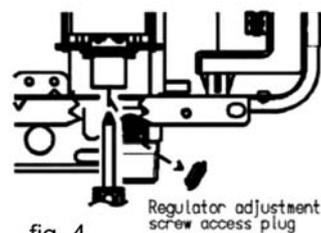

fig. 4
11. Remove rubber access plug and adjust the regulator screw on the modulating valve (fig. 4) as required to the pressure below.